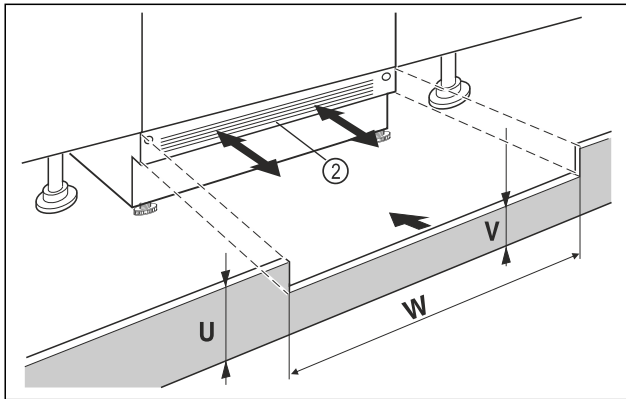

Fig. 88 Example illustration
- ▶ Put on the appliance base cover Fig. 88 (2) but do not fix it yet.
- ▶ If the base cover Fig. 88 (2) is visible, pull it so far forward that the front edge of the ventilation grille and the unit base cover form one level.
- ▶ If the base cover is concealed Fig. 88 (2), push it all the way back.
- ▶ Ensure that the ventilation slots are completely free: If necessary, cut the height of the unit base cover Fig. 88 (U) to size!
- ▷ Adjust the bar height Fig. 88 (V) under the appliance base cover Fig. 88 (2) along the recess width Fig. 88 (W).